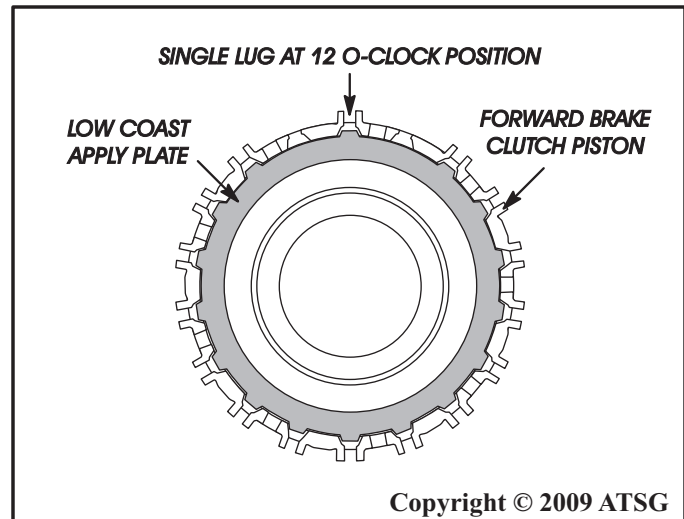

Figure 186
2. Check once again that the forward clutch piston is in the case properly, with the single lug at the 12-O'clock position, as shown in Figure 186.
Note: Ensure that the single lug on the apply plate is at the 12-O'clock position, as shown in Figure 186.